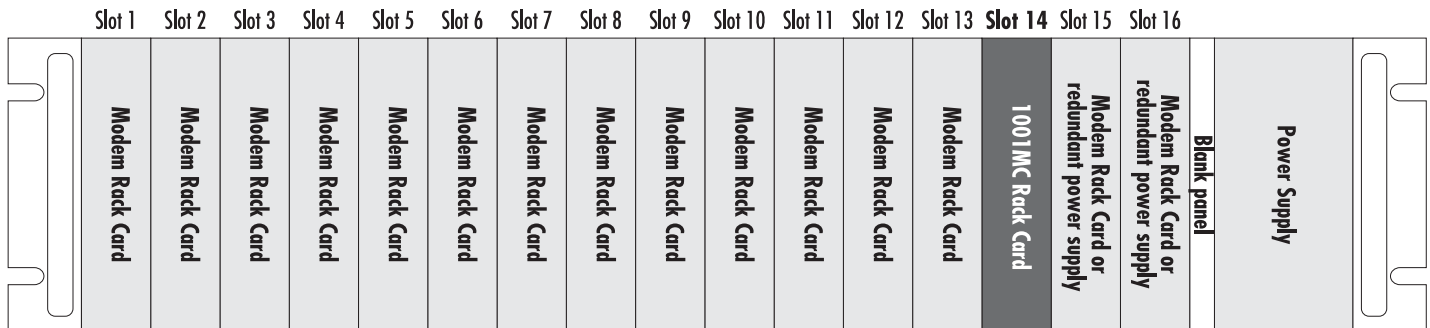

Figure 6. Rack chassis slot layout (front view)
- Slide the front rack card into the front chassis slot 14 (see figure 6) until it meets the rear card receptacle. When that happens, push the front card gently but firmly into the card-edge receptacle of the rear card, it should *click* into place.